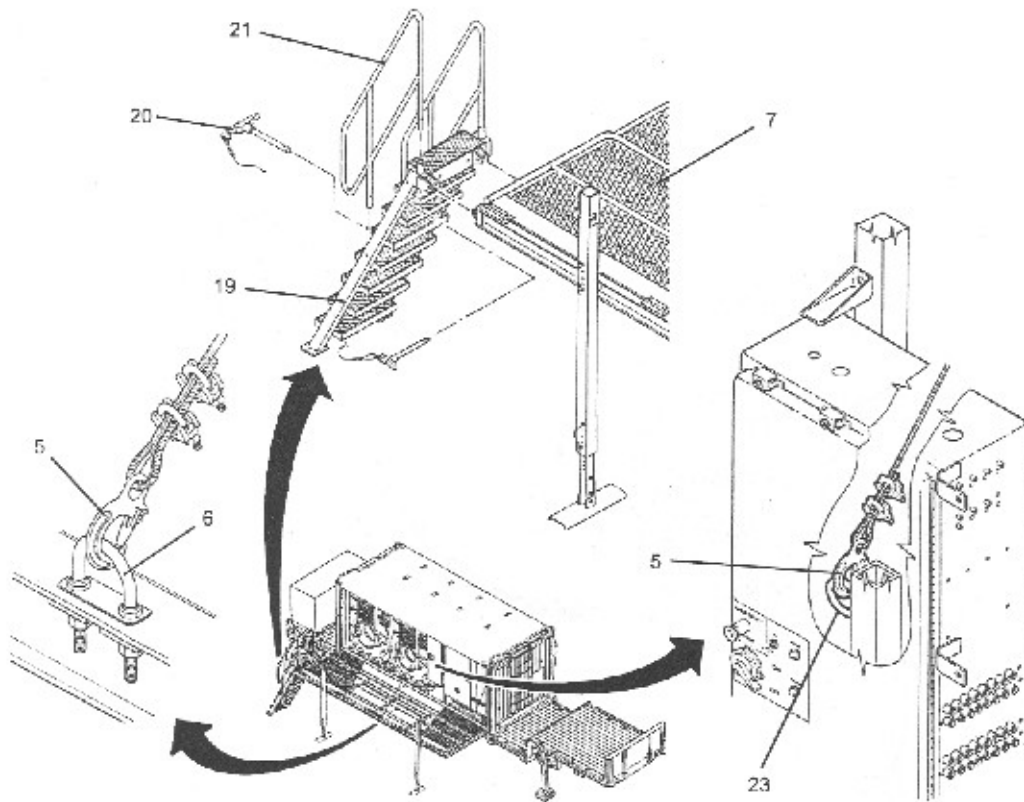

Figure 3-40
- o. Use winch (9) to retract cable (10) while maintaining a slight tension on cable.
- p. Hook shackle (5) on u-bolt (23) then remove slack from cable (10).
- q. Remove and stow winch handle (8) in toolbox. (See Figure 3-40)